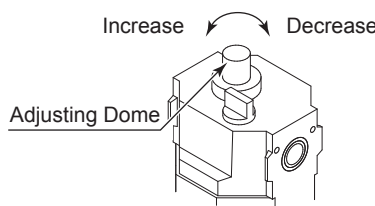

Fig. 22
- ③ Adjustment of Oil Drip Rate (Fig. 22)